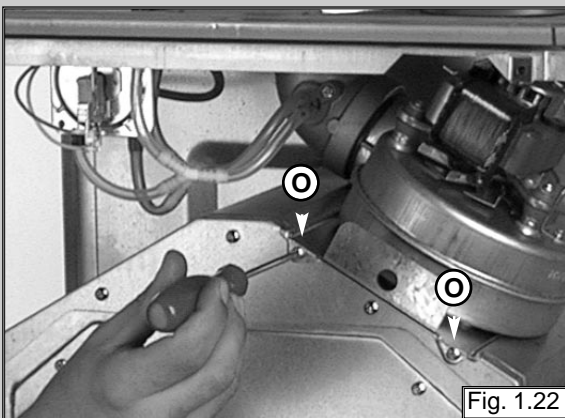

Fig. 1.22
1. Disconnect electrical connections and remove screws "O" using a No. 2 star tipped screwdriver (see fig. 1.22);